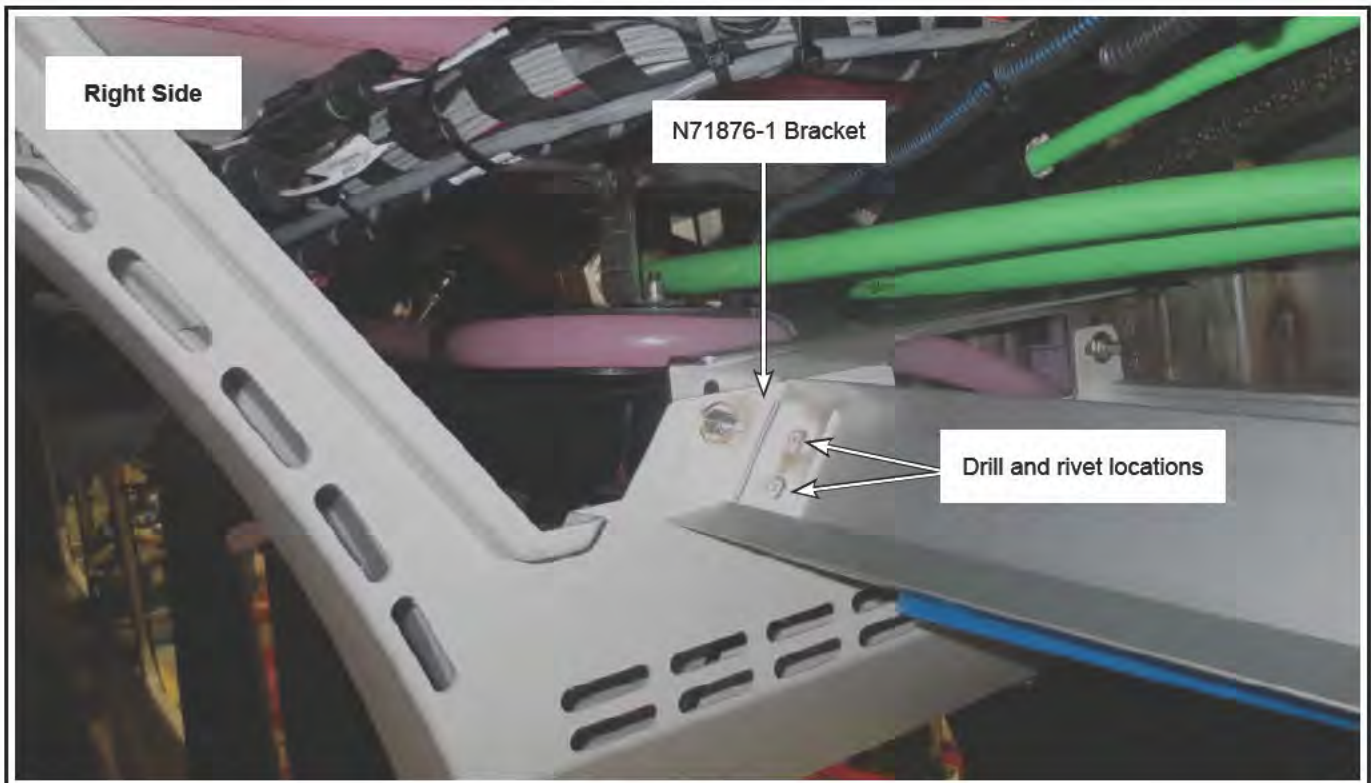

Figure 2 - Rivet Drill Points and Rivet Locations
- 1.5. Use the holes in the brackets as a template for your drill points. On each side of the vehicle, drill two 0.19" (5 mm) holes into the baselight panel walls for the rivets. See Figure 2.